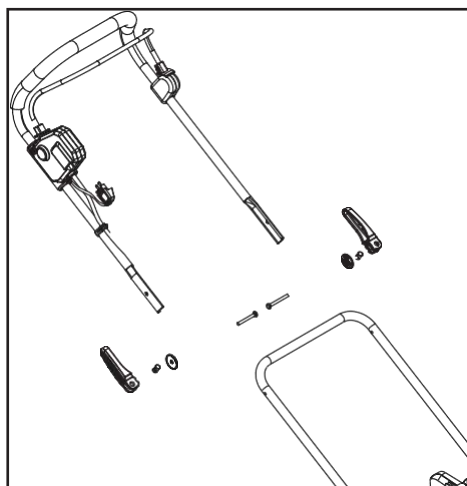

Fig. 2
2. Place the upper handle over the upper ends of the lower handle. Align the holes. Use the two sets of upper handle clips to secure (See Fig. 2).